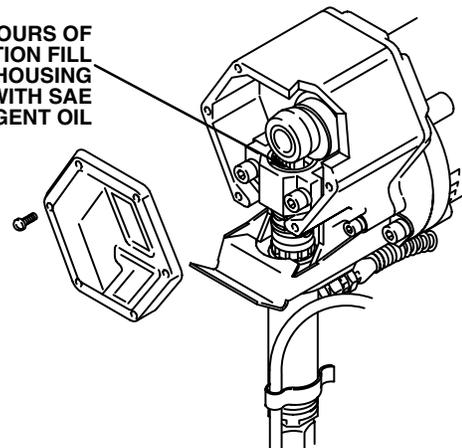

Fig 12-3
7. **Lubricate the bearing housing** after every 100 hours of operation. Remove the drive housing cover. Fill the bearing housing with SAE non-detergent oil. See Fig 12-3.